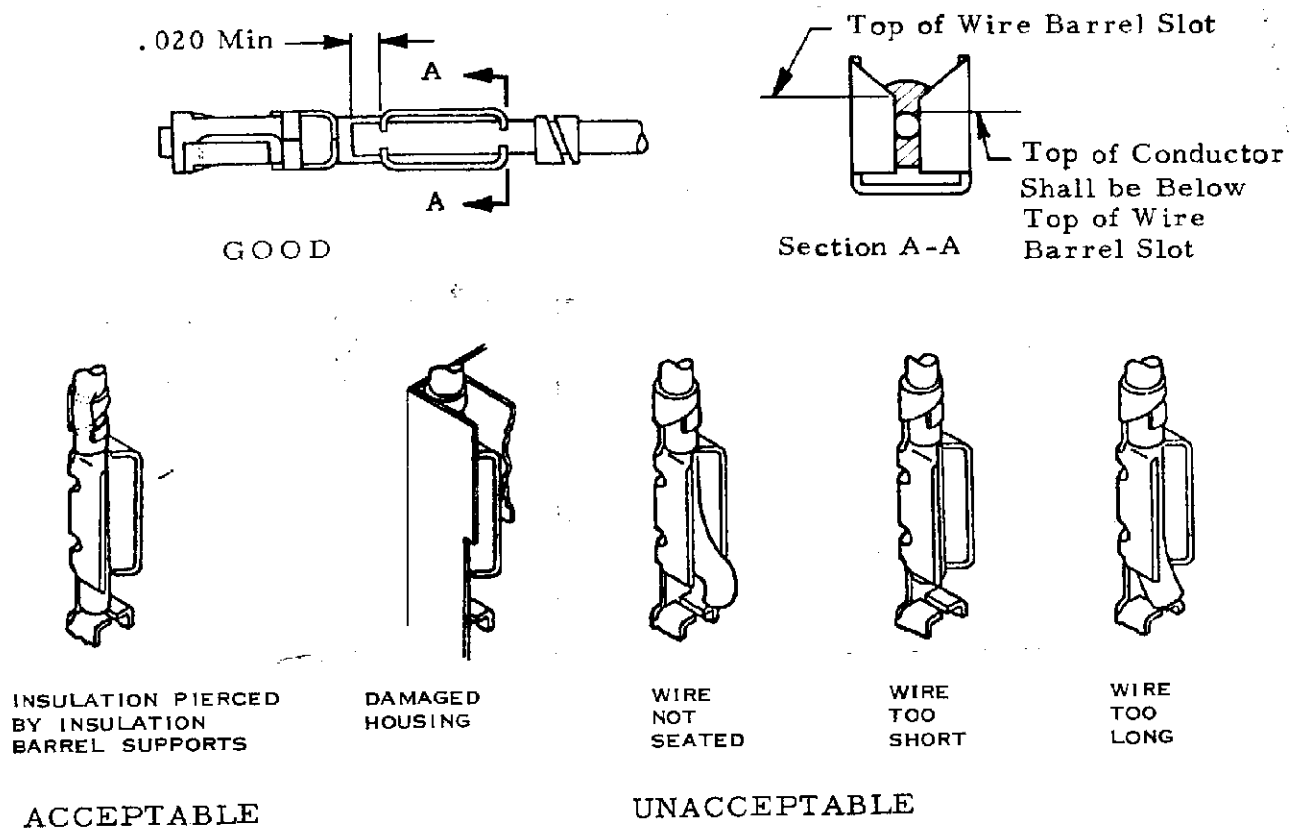

Figure 5
- A. Terminated conductors shall meet the requirements specified in Figure 5.